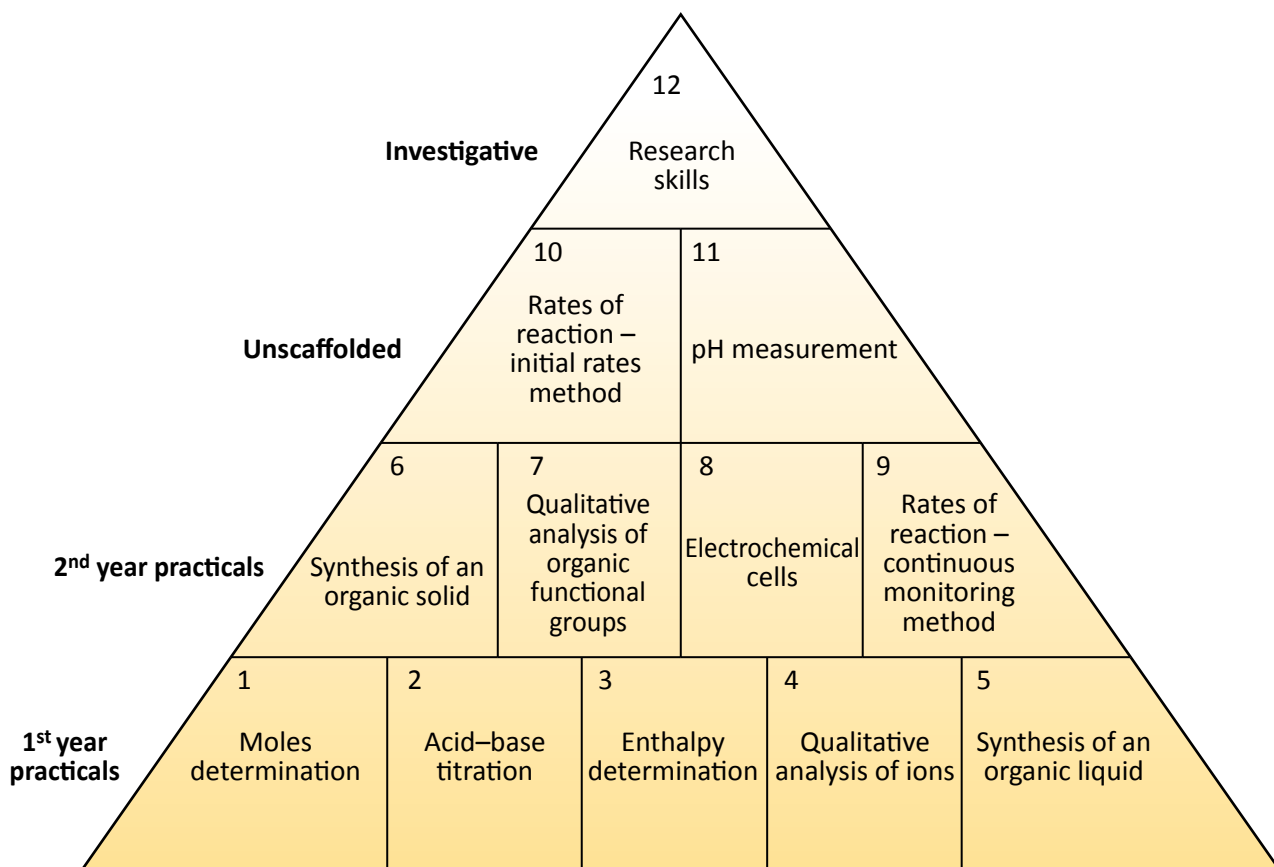

Fig. 1 OCR's Practical Activity Groups (PAGs), also see **Table 1**
The Practical Endorsement is common across Chemistry A and Chemistry B (Salters). It requires a minimum of 12 practical activities to be completed from the categories defined below (**Fig. 1**).
- A minimum of 12 practical activities to be carried out by each student which, together, meet the requirements of Appendices 5b (*Practical skills identified for direct assessment and developed through teaching and learning, covered in Module 1.2.1*) and 5c (*Use of apparatus and techniques, covered in Module 1.2.2*) from the prescribed subject content, published by the Department for Education. The required practical activities will be defined by each awarding organisation (see **Fig. 1** and **Table 1**)